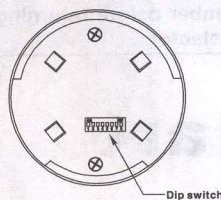

Fig.3: the location of dip switch
- Please refer to fig.3 to via DIP SWITCH to set detector address.